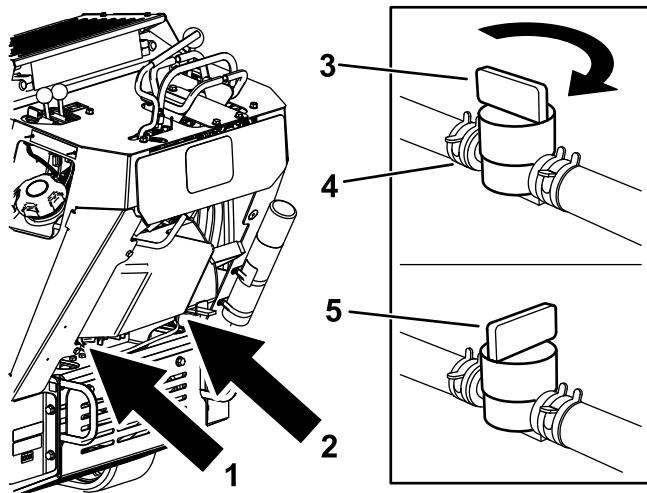

Figure 48
3. Turn the fuel-shutoff valve to the closed position (Figure 48).
4. Squeeze the ends of the hose clamp on the engine side of the valve together and slide it up the fuel line away from the valve (Figure 48).
5. Pull the fuel line off the valve (Figure 48).
3. Turn the fuel shutoff valve to the closed position (Figure 48).
5. Turn the fuel shutoff valve to the open position (Figure 48).